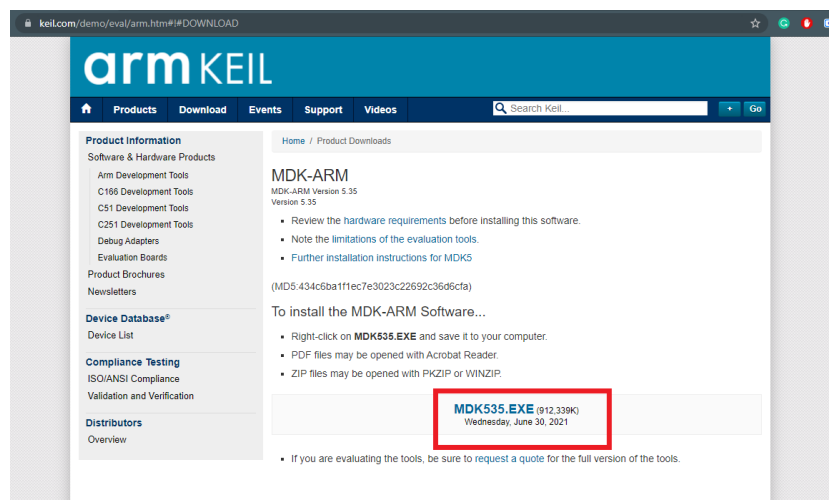

Figure 3
4. Next click on the MDKxxx.EXE link to download the setup executable file as shown in Figure 3.